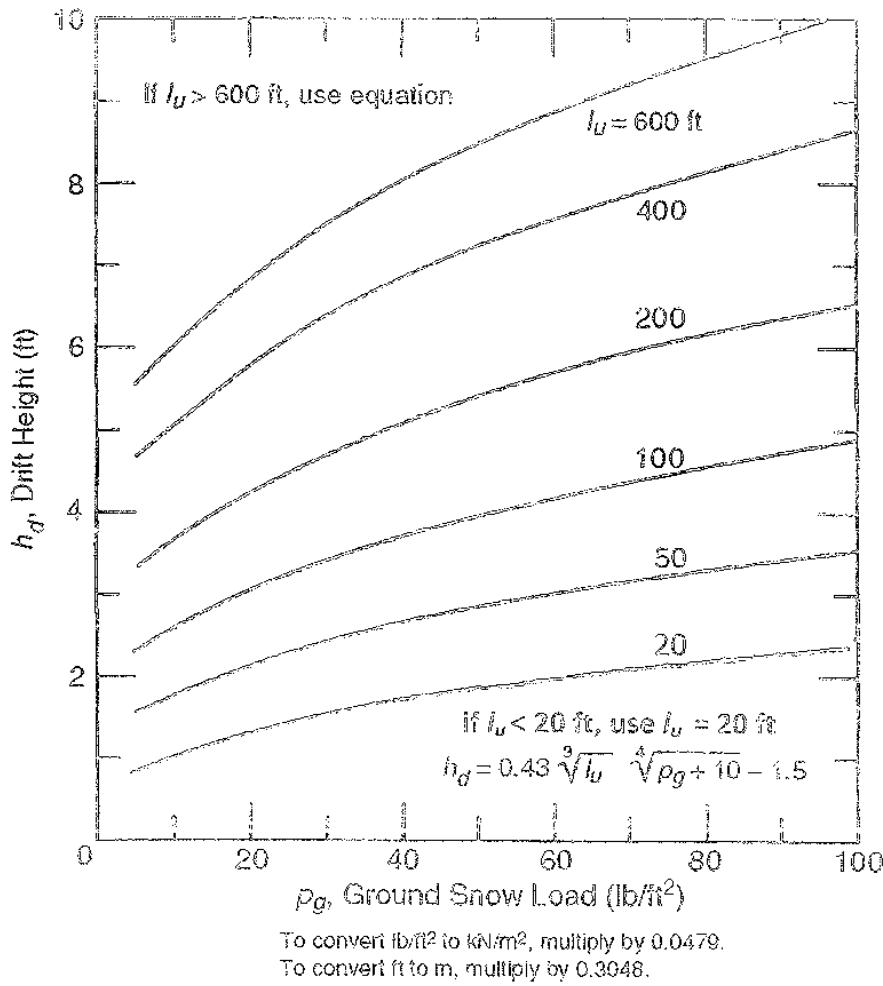

FIGURE 7-9 Graph and Equation for Determining Drift Height, h_d .
- $h_d = [(0.43 \sqrt[3]{l_u}) (\sqrt[4]{p_g + 10})] - 1.5$ (Fig. 7-9)